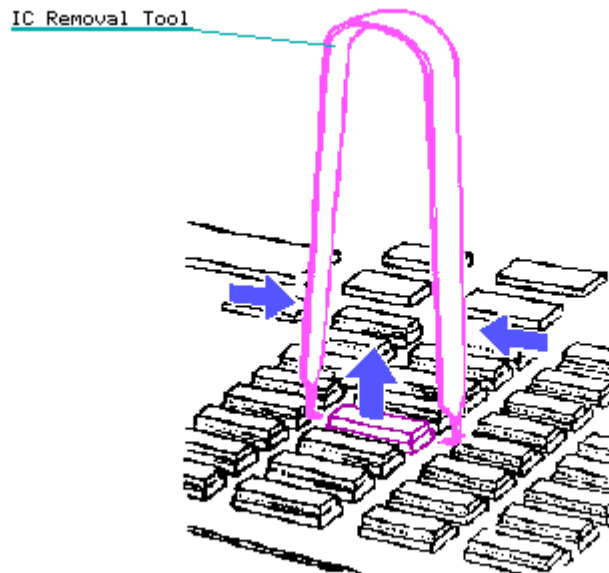

Figure 7-51. Removing a Memory Chip
2. Using an IC removal tool, remove the defective RAM or ROM chip(s) (Figure 7-51).